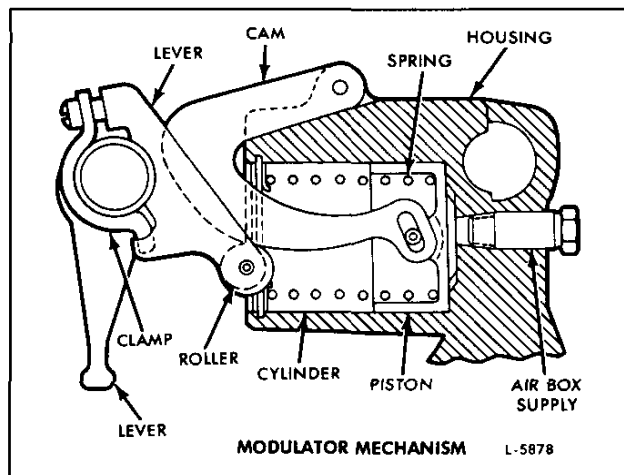

Fig. 10 - Typical Fuel Modulator Assembly
3. Rotate the air box modulator lever assembly and clamp on the injector control tube until the lever roller contacts the modulator cam with sufficient force to take up the pin clearance (Fig. 10).